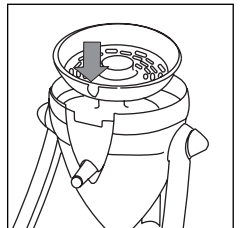

Fig.3
- Place the filter assembly on the motor base, making sure the pulp density selector is positioned in the hollow in the motor base (fig. 3).